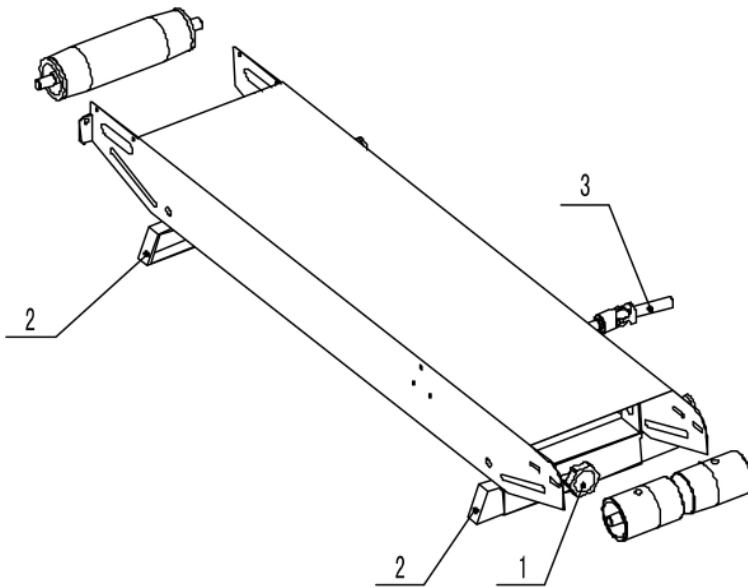

Figure 8. (1) Adjusting Knob, (2) Foot Rest, (3) Drive Shaft Connector, Gimbal Assembly
4. Adjust the conveyor position forwards or backwards. Refer to **Figure 8** for knob adjustments. For vertical configuration only, adjust the height of the band sealer appropriate for your bag to be sealed using the two flower knobs found on right and left support bars.